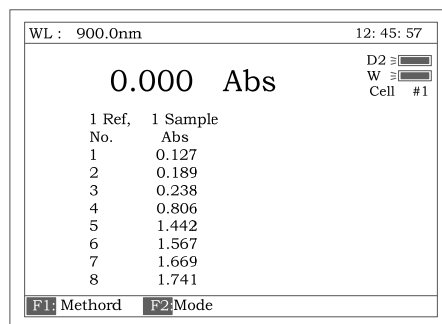

Fig 107
8. Remove 8 references and put 8 samples into CELL NO.1-NO.8, Press the **[START]**, the results are taken **automatically** . Fig 107.